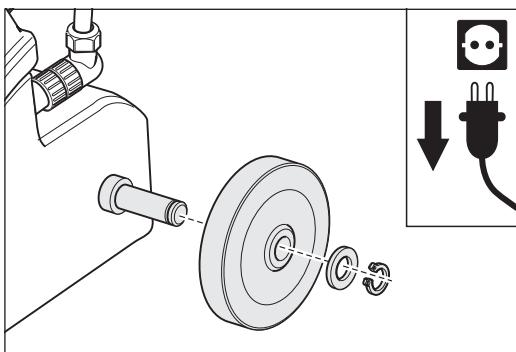

Fig. 35 Remove the retaining ring and remove the washer and the wheel. Install again in reverse order.
- 2** Use a suitable pair of circlip pliers to remove the retaining ring from the wheel axle. Remove the washer and the wheel (Fig. 35).